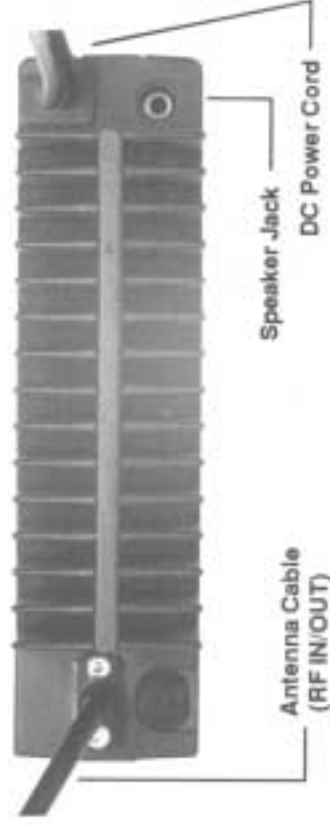

Figure 1. Rear View.
2. Install the speaker cable's plug in the 3.5mm phone jack located on the Unit's rear panel. See Figure 1, below.